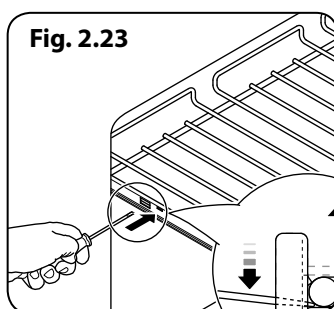

Fig. 2.23
2. **NOTE:** To aid the removal of the shelf you can insert a suitable flat tool through the opening in the side of the runners and lever the shelf clear (Fig. 2.23).